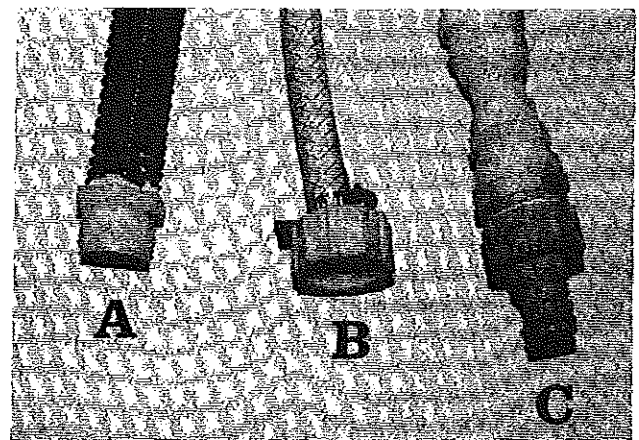

FIGURE 28
32. Refer to Figure 28 for utility line identification: